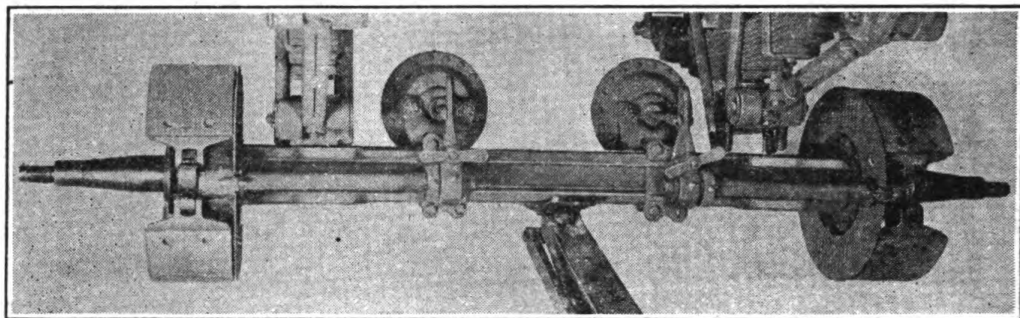

FIGURE 17. AXLE REMOVAL—DOLLY.
5. **AXLE REMOVAL—DOLLY** (Fig. 17).—*a.* Fasten chain hoist to dolly frame using a double spread chain. Place a mobile jack under center of axle.